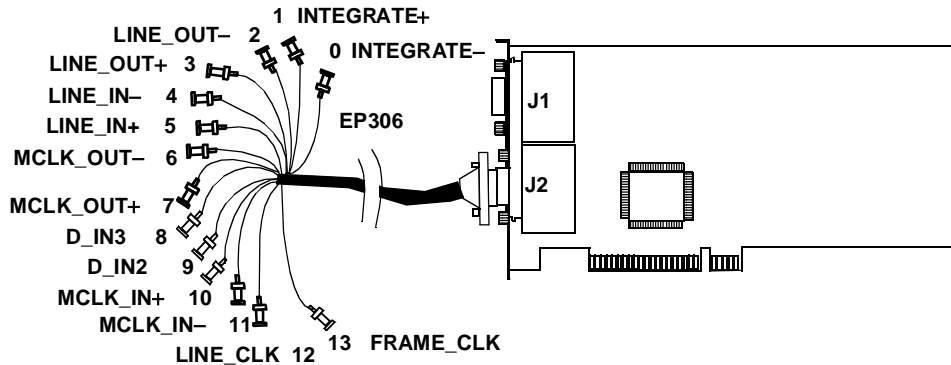

Figure 5: Connecting the EP306 Cable Assembly to Connector J2
1. After making sure power to the computer is off, push the 15-pin connector of the second EP306 cable assembly into the J2 socket at the rear of the DT3152-LS board, as shown in Figure 5, and tighten the screws on the connector.